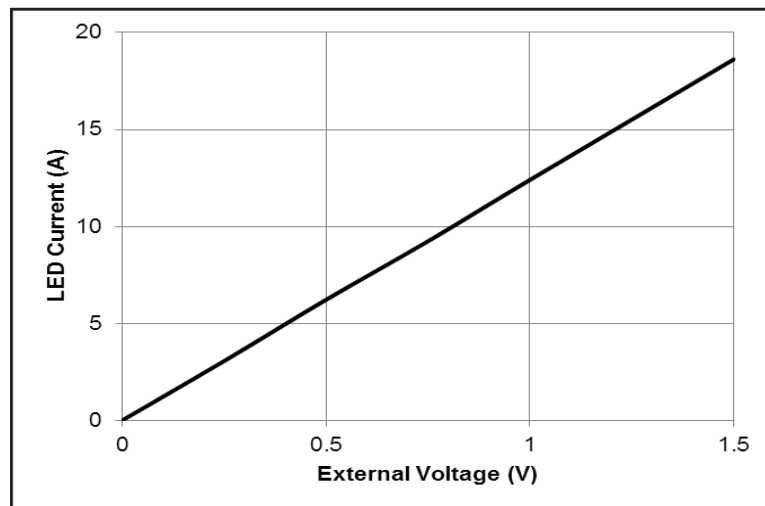

Figure 12: LED Current as a function of External Voltage
3. To control the current externally, connect the positive of a 0-5 V signal to the Analog ADJ pin and the negative to the GND pin, using the signal cable. Figure 12 shows the relationship between the LED current and the external voltage.